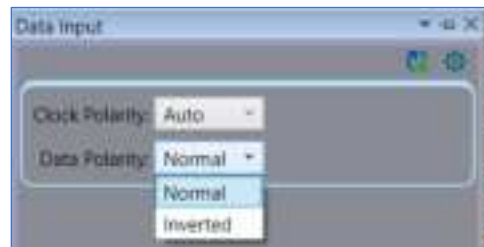

Figure 140: Data Polarity Drop Down Menu
- Data Polarity – Valid selections are Normal and Inverted, as shown in Figure 140; useful when the data stream starts out inverted, in effect, un-inverts the data